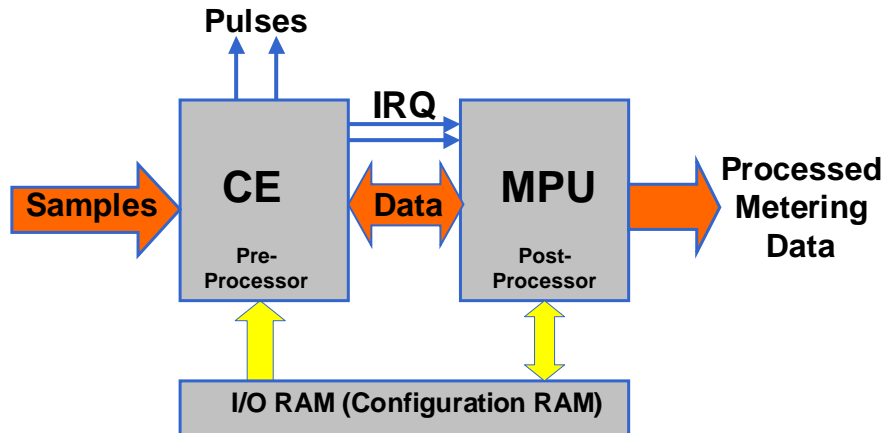

Figure 17: MPU/CE Data Flow
The data flow between CE and MPU is shown in Figure 17. In a typical application, the 32-bit compute engine (CE) sequentially processes the samples from the voltage inputs on pins IA, VA, IB, VB, IC, and VC performing calculations to measure active power (Wh), reactive power (VARh), A²h, and V²h for four-quadrant metering. These measurements are then accessed by the MPU, processed further and output using the peripheral devices available to the MPU.